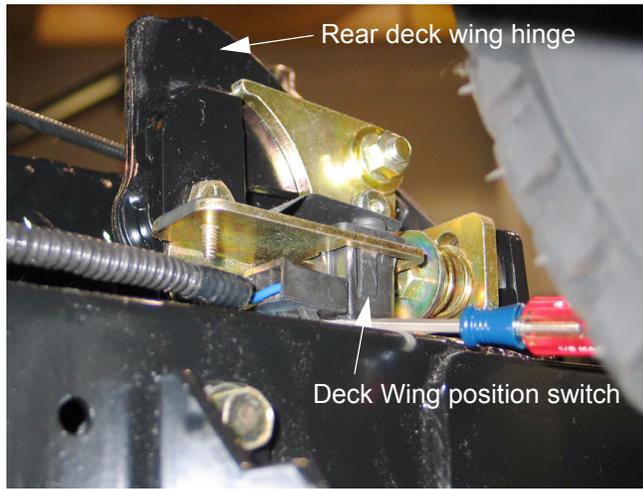

Figure 7.9
- 7.9. Disconnect the wires from the deck wing position switches on each rear deck wing bracket. See Figure 7.9.